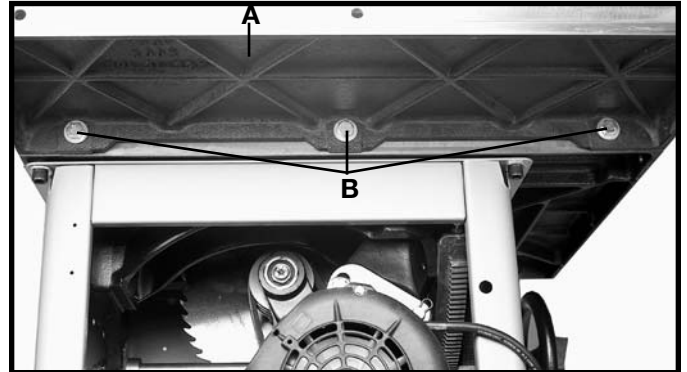

Fig. 7
Assemble the extension wings (A) Fig. 7 and Fig. 9, to the saw table using the six 7/16"-20x1 1/4" hex head screws (B) and 7/16" flat washers supplied. Use a straight edge (C) Fig. 8, to make sure the extension wings (A) are level with the saw table before tightening the screws (B) Fig. 7 and Fig. 9. **NOTE: MAKE SURE FRONT EDGE OF WING IS FLUSH TO OR SLIGHTLY BEHIND THE FRONT EDGE OF THE TABLE.**